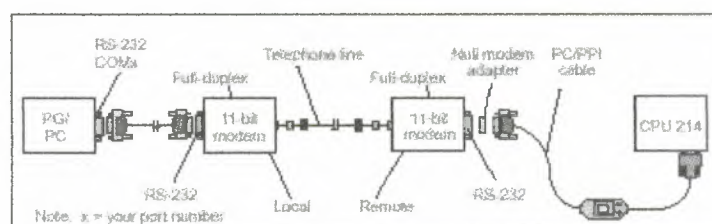

Figure 6.9 S7-200 Data Communications Using an 11-Bit Modem
- A single master device is connected to one or more slave devices. This master device is connected by means of 11-bit modems to either one S7-200 CPU functioning as a slave device or else to a network of S7-200 CPUs functioning as slave devices. See Figure 6.9.